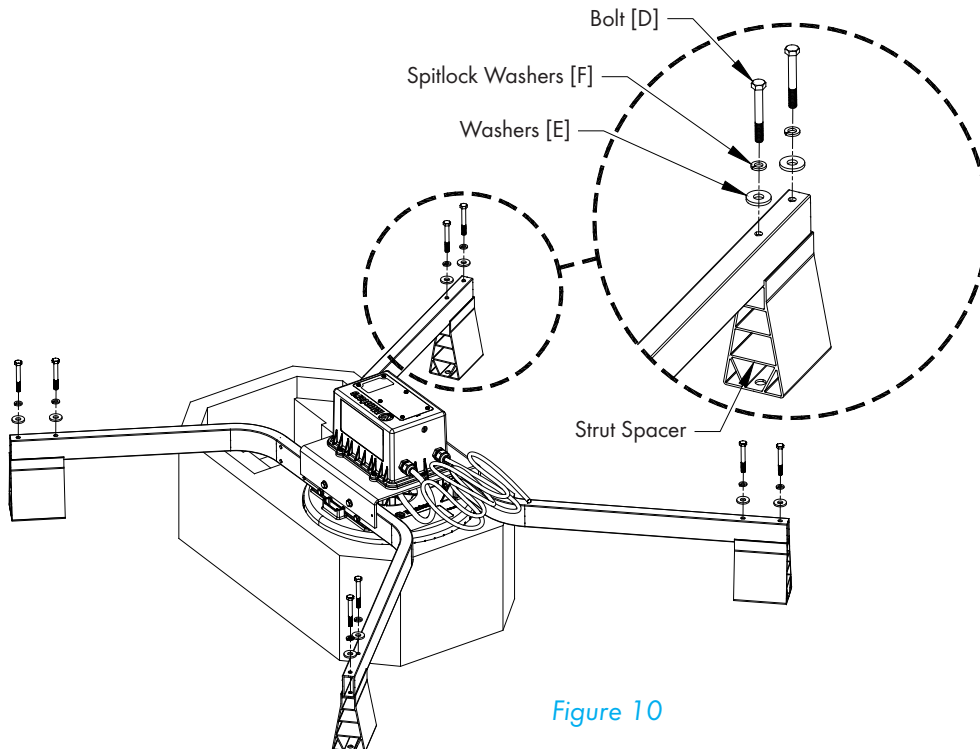

Figure 10
With the Munters Drive Motor/strut assembly still sitting in the foam packaging attach the (4) Strut Spacers to the under side of the tube strut using (2) Bolts [D], Washers [E] and Splitlock Washers [F]. See Figure 10.